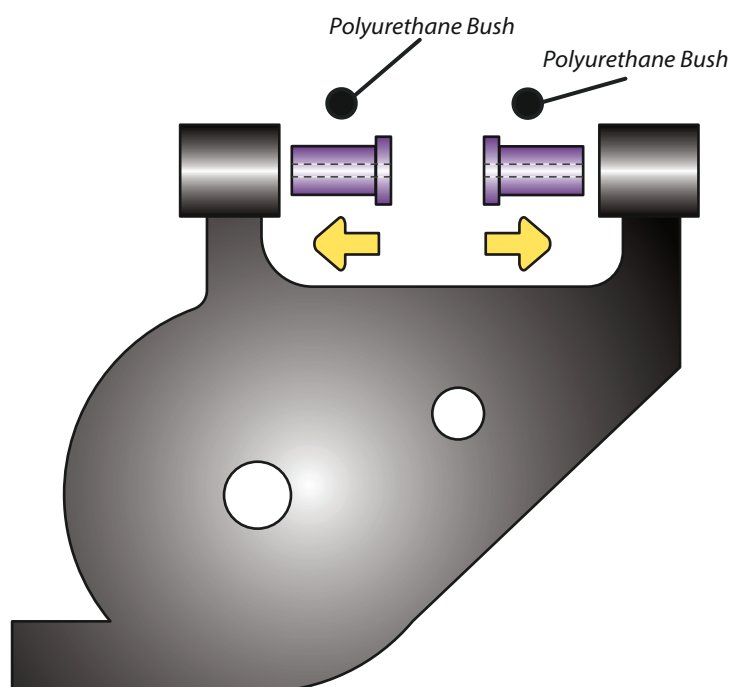

Figure 1 - Inserting the Polyurethane Bushes
2. Insert the new Powerflex bush into the rear trailing arm from the inside of the arm until flush as shown in Figure. 1, with both bushes facing outwards.